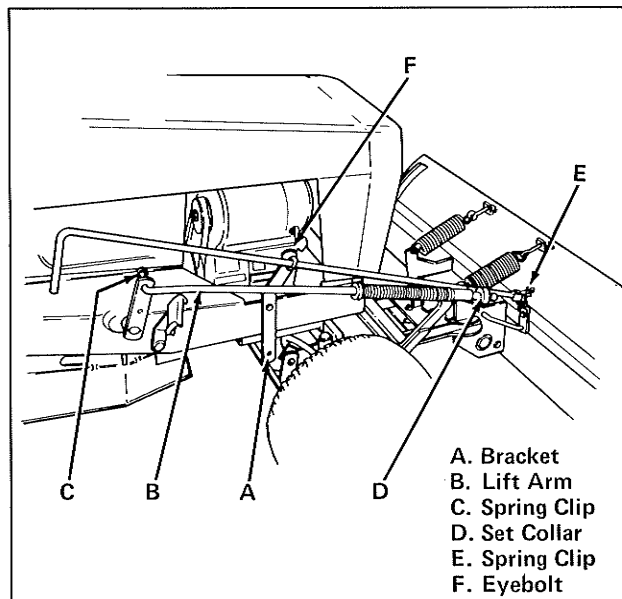

Figure 6. Installing Lift Rod and Control Rod to Tractor
6. Mount control rod bracket (item A, figure 6) to tractor frame with one capscrew and lock-washer.
When dual lift lever is used, install lift arm (item B) to lift lever so that spring clip (item C) is installed outside of lift lever. This is opposite what is shown in figure 6.
3. Remove spring clip (item E, figure 6) to remove control rod from eyebolt (item F).
4. Pull out spring clip (item C, figure 6) and remove lift arm. Place arm over the blade.
6. If desired, remove control rod bracket (item A, figure 6) from tractor frame. Install cap-screw and lockwasher on bracket for storage.